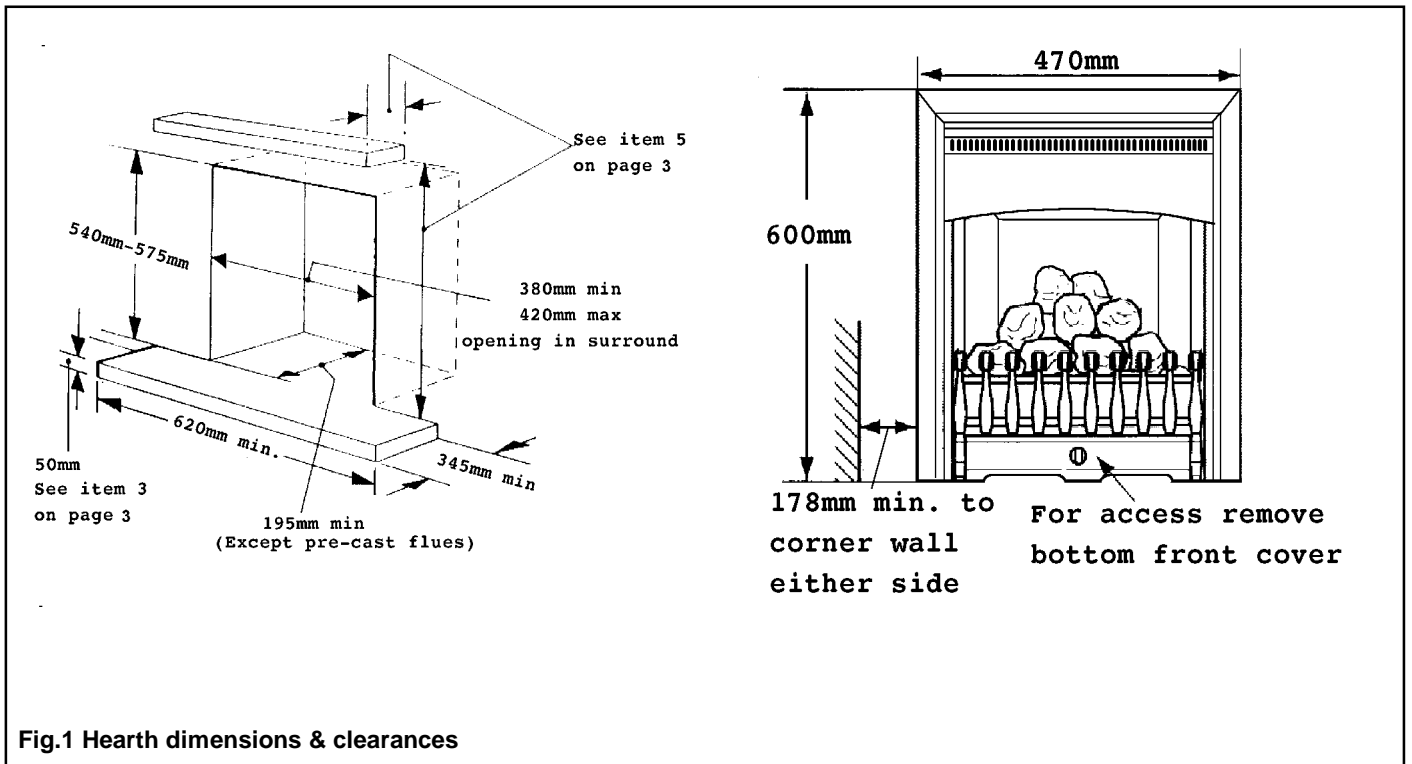

Fig.1 Hearth dimensions & clearances
3. On no account must the fire stand on carpets or other combustible materials. The fire must stand behind a non-combustible hearth surface. The hearth material must be at least 12mm thick. Its top surface should be 50mm above floor level to discourage placing carpets. Rugs or other combustible materials over the hearth. The minimum size of the hearth is shown in figure 1.
4. If the fire is intended to be installed against a wall with combustible cladding, the cladding must be removed from the area covered by the outer surround (see figure 1).
To get access to the control knob, remove the bottom front cover (Figure 1).